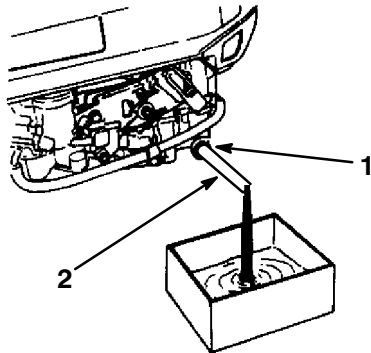

Figure 10
6. Raise the left side of the lawn mower at least 12 inches and open the side oil drain plug (Fig. 10).
7. Insert the oil drain tube over the drain plug and lower the lawn mower (Fig. 10).